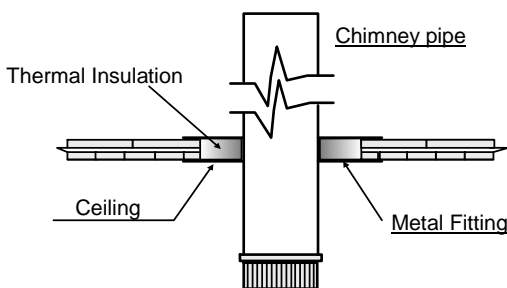

FIG: 2
5. Appropriate firebreaks, firewalls must be installed when a section of the chimney passes through floors and/or ceilings. The insulation will be at least 50 mm thick from the flue to the structure. It is necessary to protect the walls with wall protectors when the chimney is not at the indicated safe distance and damage may occur. (See Fig. 2).